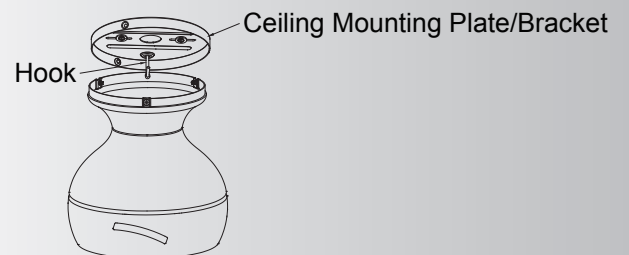

Fig. 5
Step 2. Hook the motor body onto the Ceiling Mounting Plate/Bracket as shown. You can now proceed with the electrical wiring of your fan. (Fig. 5)